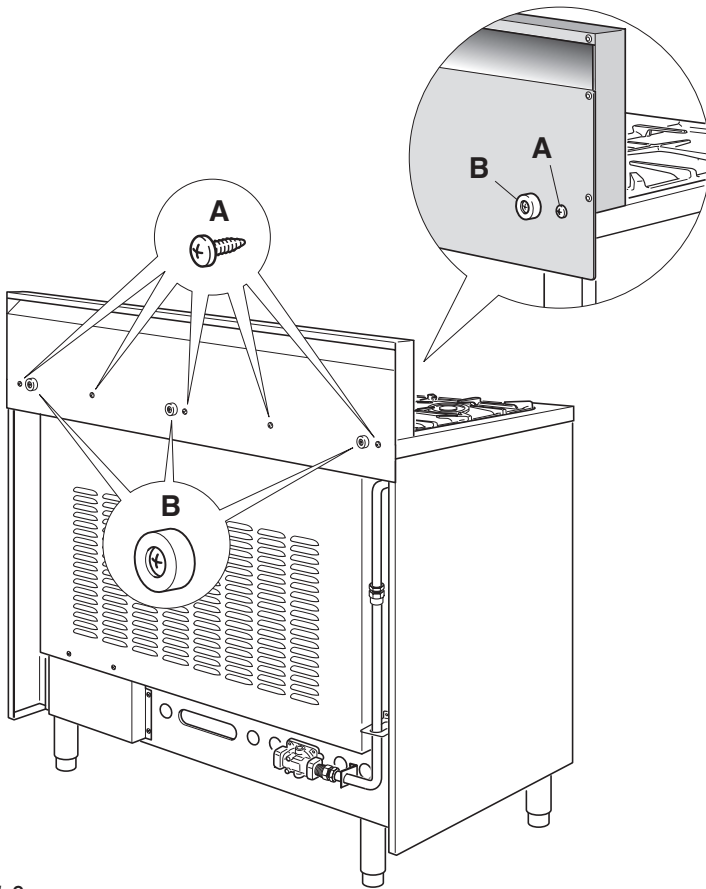

Fig. 1.8
- Assemble the backguard or the island trim as shown in figure 1.8 or 1.9 and fix it by screwing the 5 screws “A” (which are already fixed on the back of the cooktop).